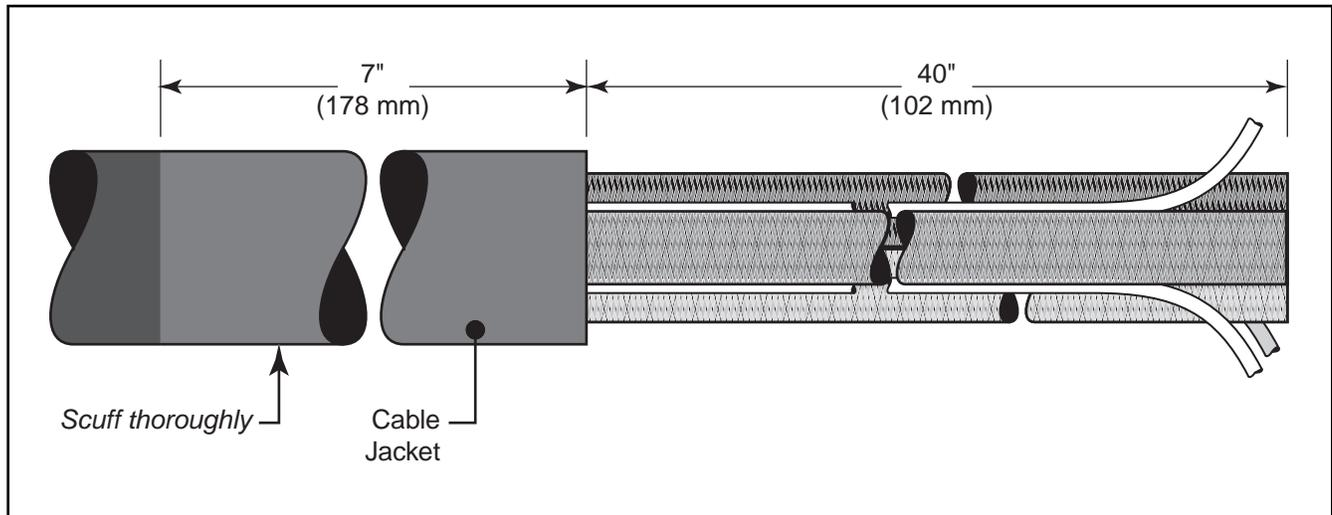

Figure 1
- 1.1 Remove cable jacket for 40" (102 mm). (Figure 1)
- 1.3 Scuff end of cable jacket for 7" (178 mm). Scuff 2-1/2" (64 mm) of the ground check insulation, starting at cutback end of cable jacket. (*A thorough scuffing is important to assure a good bond with the sheath seal compound.*) (Figure 1.)